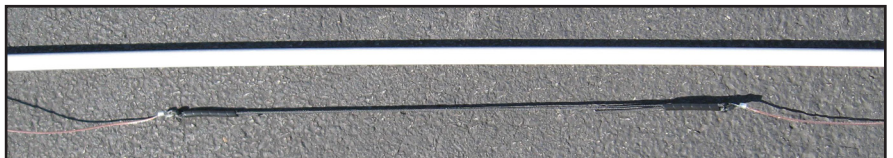

Fig. 78
- Completely wrap the cord with the spiral tube as shown in Fig. 78.